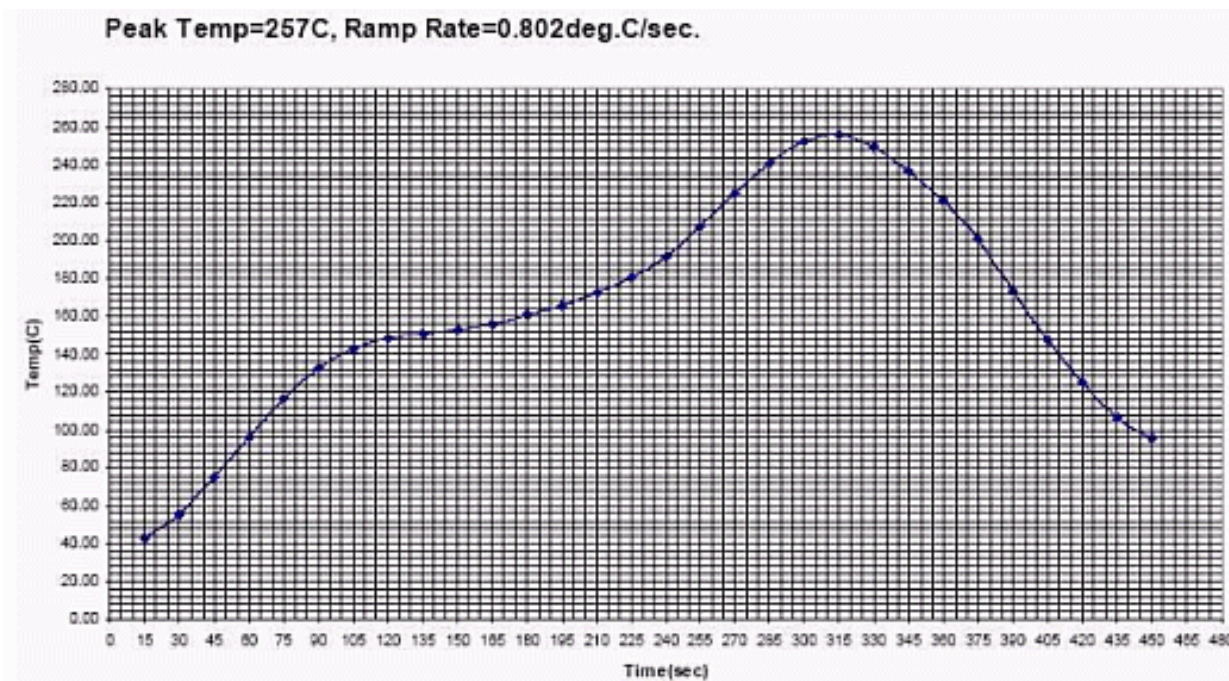

Figure 7. Typical Temperature Profile for Sn96.5Ag3.5 and Sn-Ag-Cu "Pb-Free" Solder Paste
- "Pb-Free" solder paste reflow: Nominal peak temperature is $250^{\circ}\text{C} \pm 10^{\circ}\text{C}$ with time above the 217°C - 221°C melting point of $60\text{ sec.} \pm 15\text{ sec.}$, which should be verified at machine setup by inline thermocouple measurements oven profiling. A typical "Pb-Free" solder paste reflow temperature profile is shown in Figure 7 for Sn96.5Ag3.5 and SnAg(2-4)Cu(0.5-0.8) alloys.